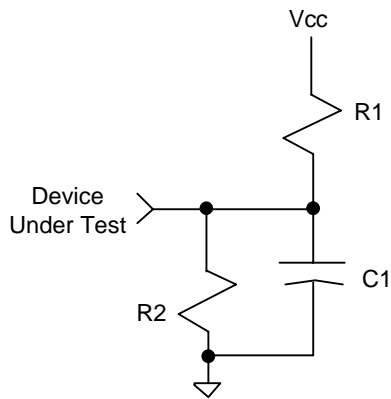

Figure 10: AC Test Load
- With load specified in Figure 10 on page 27, Test Load A.
- With load specified in Figure 10 on page 27, Test Load B.